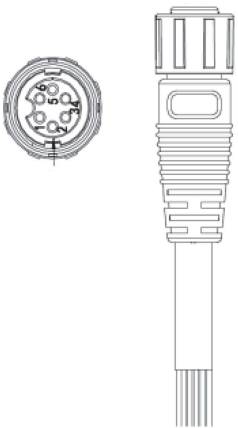

Figure 7.6 Connection cable
- (1) Weld communication cables to the RS485 terminals of the inverter as figure 7.6 shows; Ensure the cable corresponds to the pin as table 7-2 shows and the welding is tight enough.
- (2) According to Table 7-2, connect the communication connector pinout and the user's device, make sure the connection is correct.